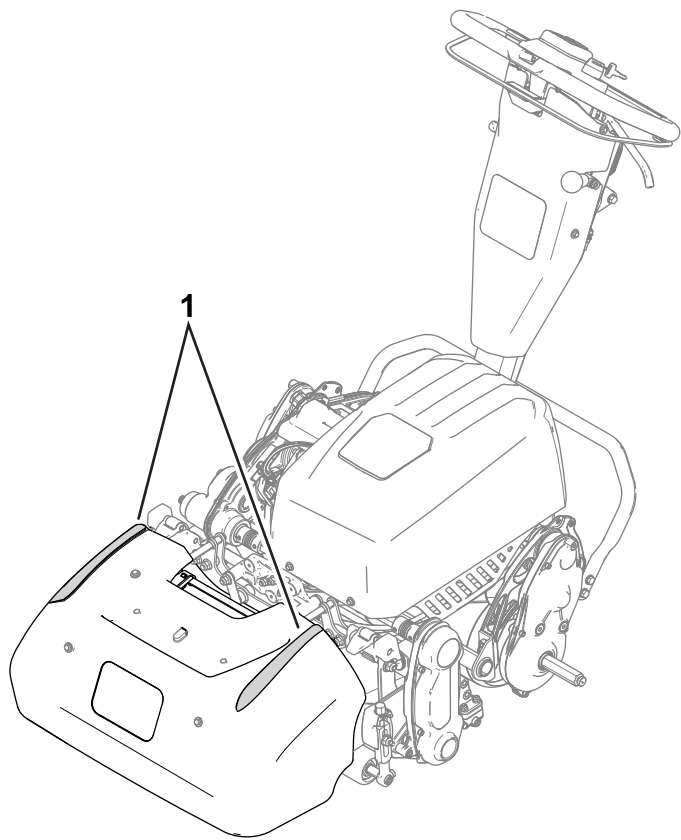

Figure 15
- To assist in maintaining a straight line across the green and to keep the machine an equal distance from the edge of the previous cut, use the alignment stripes on the basket (Figure 15).